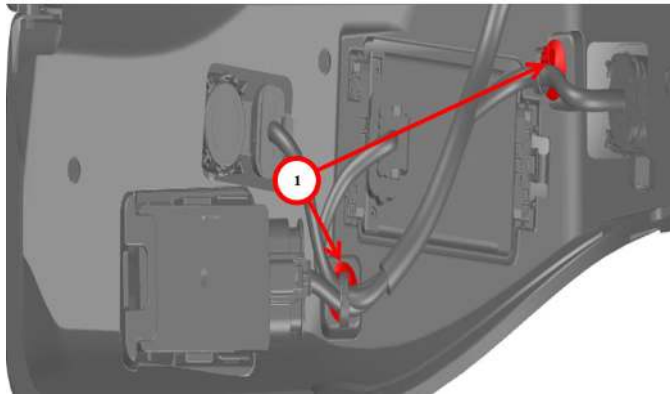

Fig. 2
3. Disengage the wire harness retainers Fig. 2.
16. Engage the wire harness retainers Fig. 2.